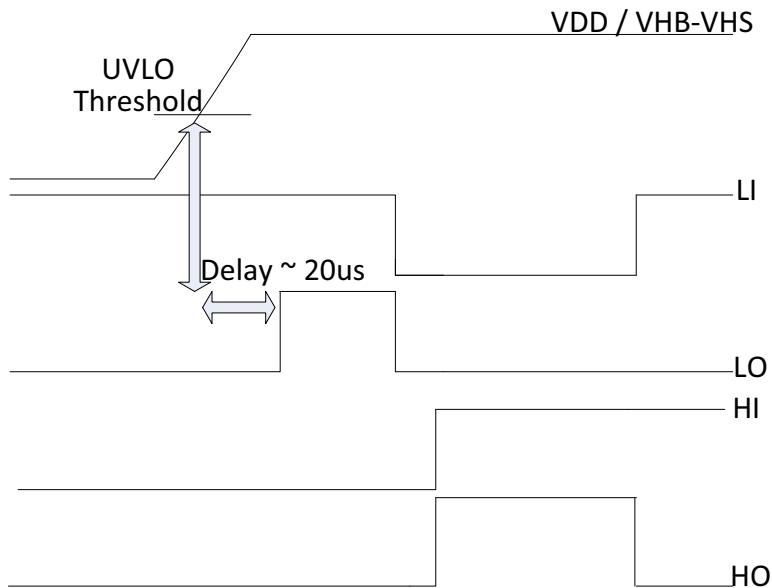

Figure 4. Output Logic at UVLO Crossing
At power-up, the HS Pin is at ground, the bootstrap capacitor will charge up to VDD through the internal diode. The designer must factor in at least 3 time constants (RC) plus the internal UVLO delays (20 μs typical) before the output can react to a logic input (Refer to Figure 4). If for any reason the voltage across the bootstrap capacitor drops below UVLO, it is required to charge the capacitor back up to VDD while accounting for 3 time constants and the 20 μs UVLO delay before the High-Side channel can react to an HI input.
At power up, when the supply voltage ramps up to set VDD and crosses the UVLO thresholds, **users must take into account a 20 μ s delay** before the output drivers can react to a logic input. The 20 μ s delay applies to both High-side and Low-side drivers. Figure 4 only shows the delay for the low-side channel.
When VDD & VHB cross their respective UVLO thresholds if HI and LI were already set the NCP81076 will keep HO pulled Low until it detects a rising edge on HI, however LO will follow LI allowing the Low-Side FET to turn on. (Refer to Figure 4)